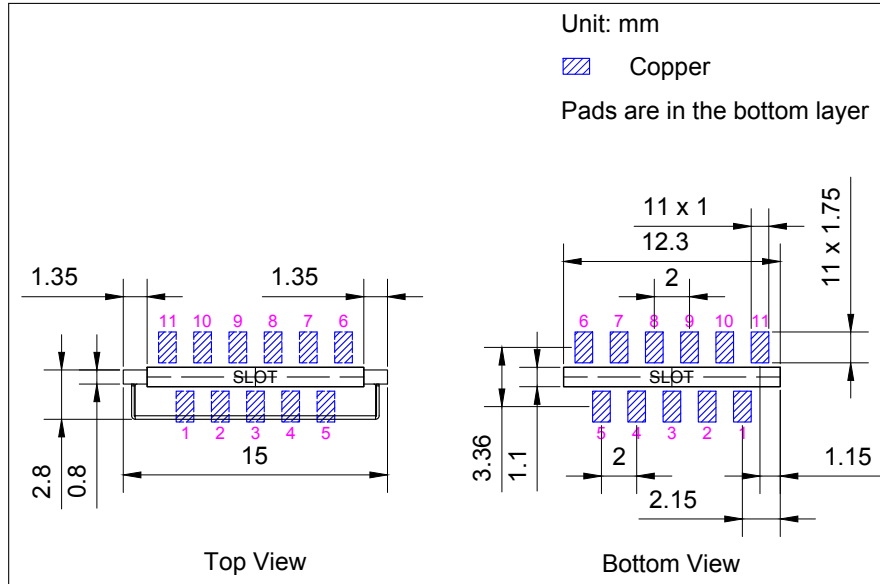

Figure 7: Recommended PCB Land Pattern
- Figure for the recommended PCB land pattern with all the dimensions needed for PCB design. See Figure 7 *Recommended PCB Land Pattern*.
- Source file of the recommended PCB land pattern to measure dimensions not covered in Figure 7. You can view the source files for ESP8684-WROOM-03 with Autodesk Viewer.